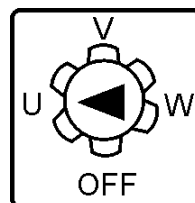
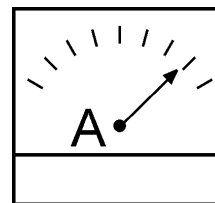

Figure 17. AC Ammeter
Figure 18. AC Ammeter
Place the **AC Ammeter Change-Over Switch** (Figure 17) in the U position and observe the current reading (load drain) on the U terminal as indicated on the **AC Ammeter Gauge** (Figure 18). This process can be repeated for terminals V and W.
1. Make sure the voltage change-over board is jumpered for 240V operation as shown in Figure 18.